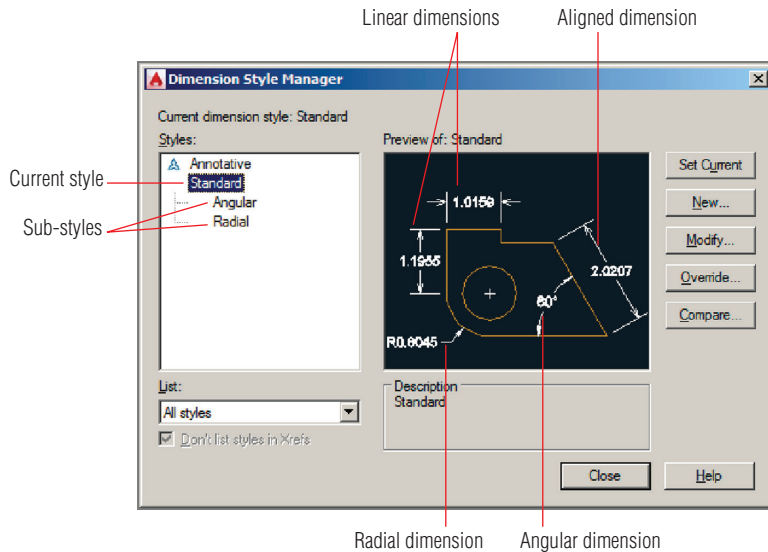

FIGURE 11.9 The preview image shows how different types of dimensions will appear when they are added to the drawing.
9. Select Standard in the styles list in the left pane of the Dimension Style Manager. The preview image now shows the cumulative effect of the style and its substyles: open arrowheads for linear and aligned dimensions and closed filled arrowheads for angular and radial dimensions (see Figure 11.9). Click Close.